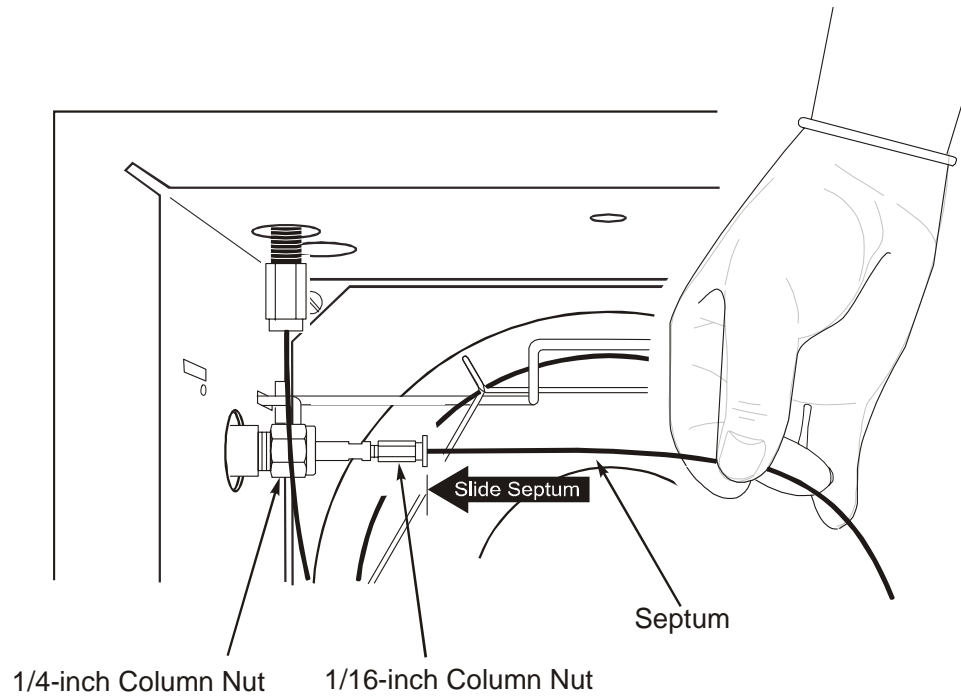

Figure 20 Marking the column position in the source
5. Hold the column in this position as you slide the column nut and ferrule to the transfer line and tighten the nut fingertight. Slide the septum until it is flush against the rear of the column nut. See Figure 20.